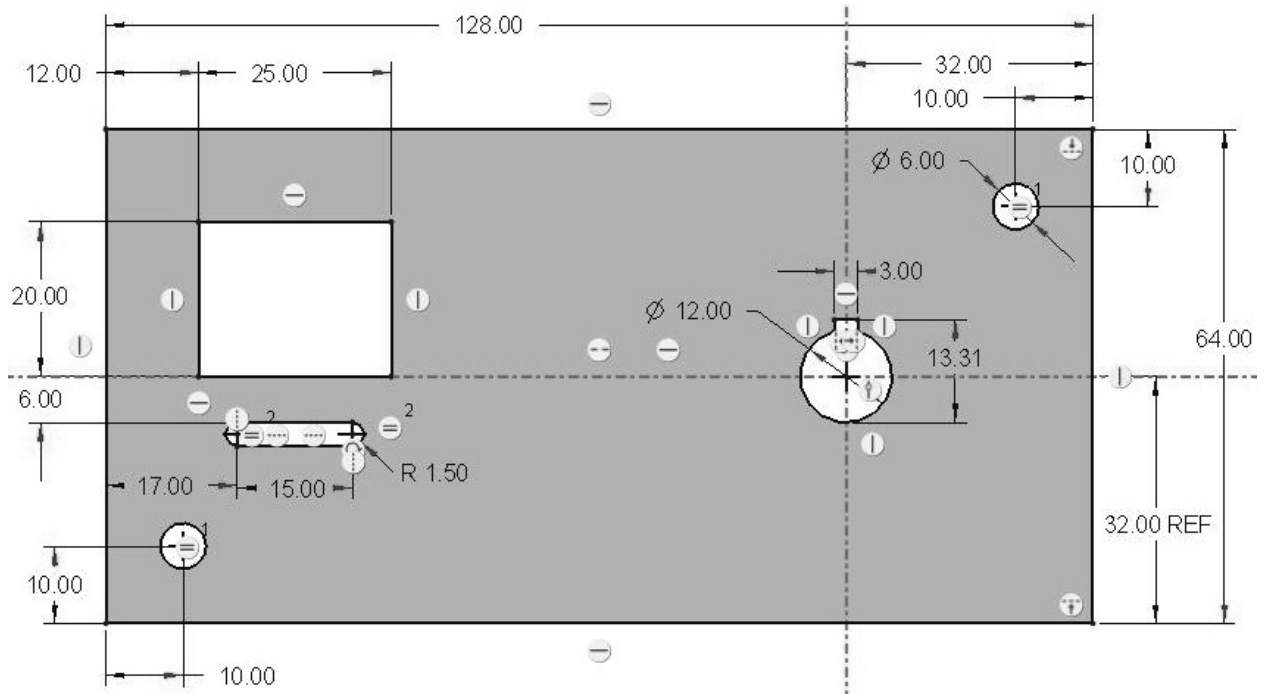

Figure 3-76 Problem 7—Front Cover Plate
3.7 Draw the "front_cover_plate" (Figure 3-76). **Design Intent**—All features are located from the outside edge of the cover plate and are not relative to each other. Draw centerlines through the 12-mm hole's center. (>File>Options>Sketcher, change to 2-decimal places before sketching.)